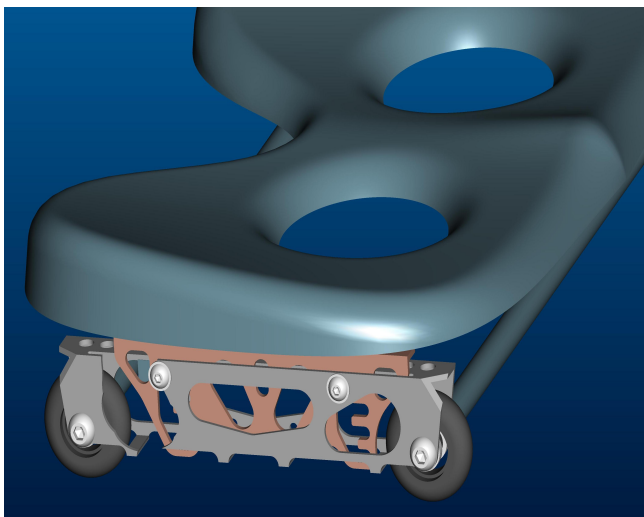

Fig. 2 – End position.
2. Move the seat and the frame in the direction of the yellow arrows until you reach the limit shown in Figure 2